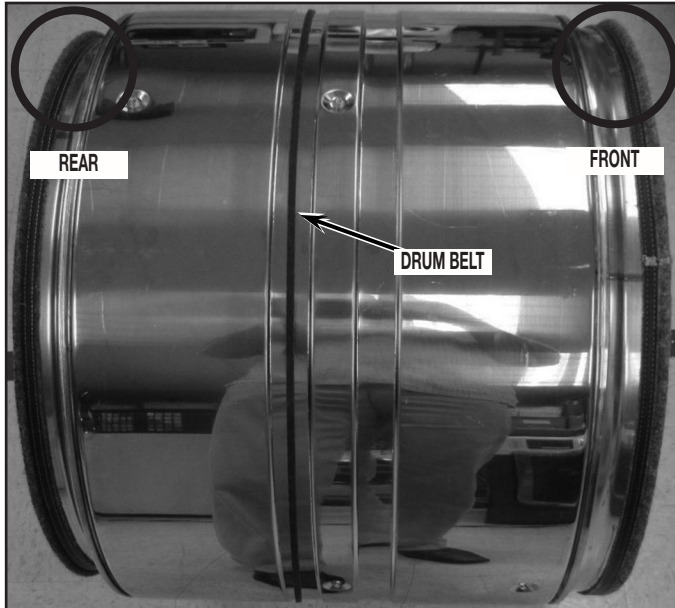

FIGURE 18
**IMPORTANT:** Note position of drum belt, front and rear orientation for reassembly. See *Figure 18*.